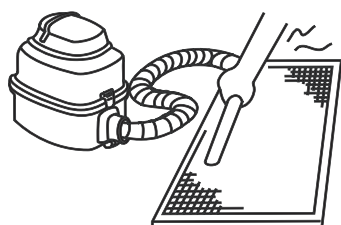

Fig.5-13
- The air-in side should face up when using vacuum cleaner. (Refer to Fig.5-13)